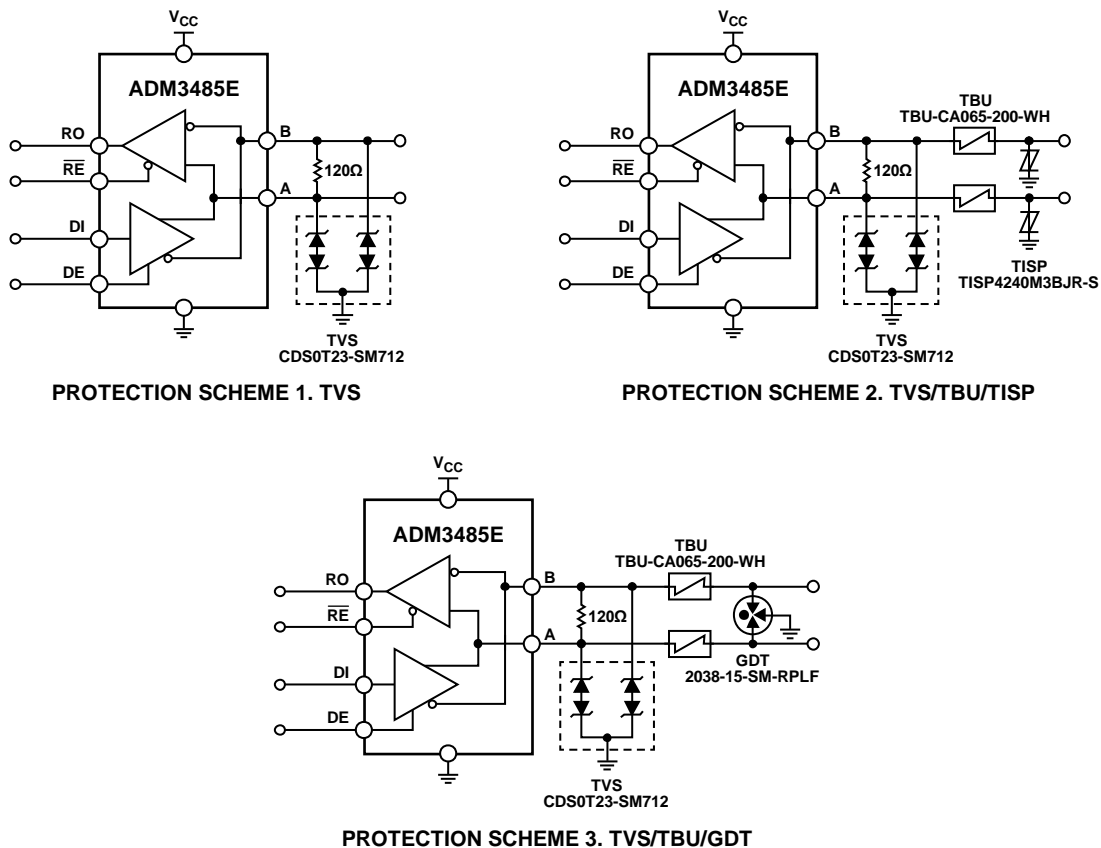

Figure 1. Three EMC Compliant ADM3485E Protection Circuits (Simplified Schematic, All Connections Not Shown)
The circuits shown in Figure 1 demonstrate proven and tested electromagnetic compatibility (EMC) compliant solutions for three protection levels for popular RS-485 communication ports
**Table 1. Protection Levels Offered by Each of the Three Protection Circuits in Figure 1**
In the first protection circuit, shown in Figure 1 as **TVS**, it uses one component, the Bourns CDSOT23-SM712. This is the transient voltage suppressor (TVS) array shown on the EVAL-CN0313-SDPZ. It consists of two bidirectional TVS diodes optimized to protect RS-485 systems with minimal overstress while allowing the full range of the RS-485 signal and common-mode excursions. The TVS has high impedance to ground in normal operating conditions. When an overvoltage occurs, the TVS enters into avalanche breakdown mode and clamps the pin voltage to a safe predetermined level. It then diverts the transient current away from the ADM3485E to ground.
In the second scheme, shown in Figure 1 as **TVS/TBU/TISP**, the CDSOT23-SM712 TVS provides secondary protection, and Bourns TISP4240M3BJR-S provides the primary protection. The TISP4240M3BJR-S is a totally integrated surge protector (**TISP**). The TISP is a solid-state thyristor. When its predetermined voltage is exceeded, the TISP provides a low impedance path to ground, diverting a majority of the transient energy away from the ADM3485E.
The third protection scheme, shown in Figure 1 as **TVS/TBU/GDT**, operates in a similar fashion to Protection Scheme 2. In this scheme, a gas discharge tube (GDT) is used instead of the TISP. The GDT protects to higher overvoltages and overcurrents than the TISP described in the previous protection scheme. A GDT is a gas discharge plasma device that provides a low impedance path to ground to protect against over voltage transients. The selected GDT is the Bourns 2038-15-SM-RPLF.